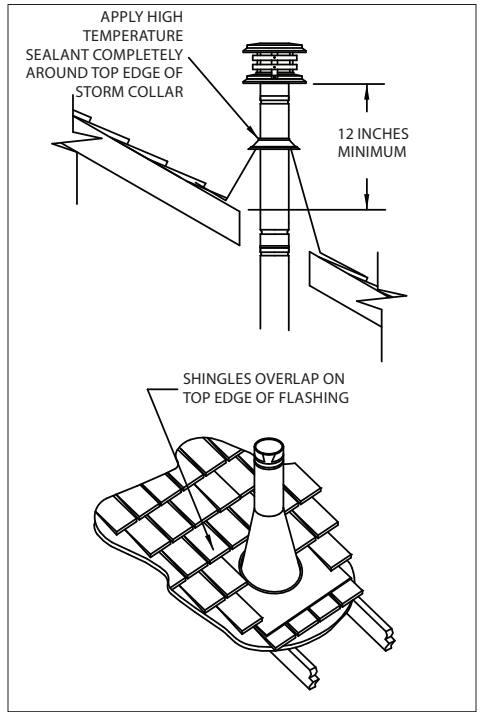
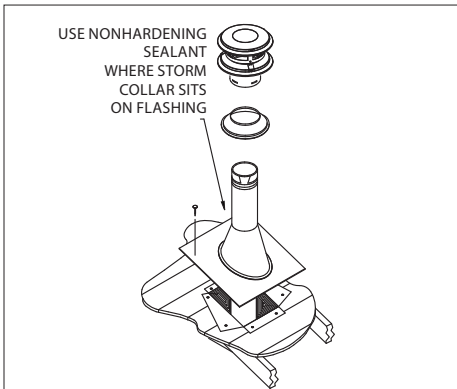

Figure 2
Figure 24
H. To finish, apply high-temperature non-hardening RTV waterproof sealant where the Storm Collar will meet the vent and Flashing; slide Storm Collar down until it sets on the Flashing, put the Cap on and twist to lock (**Figure 2**).
11. Slip the Flashing over the pipe section(s) protruding through the roof. Secure the base to the roof with roofing nails as shown in **Figure 24**. Insure that the roofing material overlaps the top edge of the Flashing (**Refer to Figure 2**).